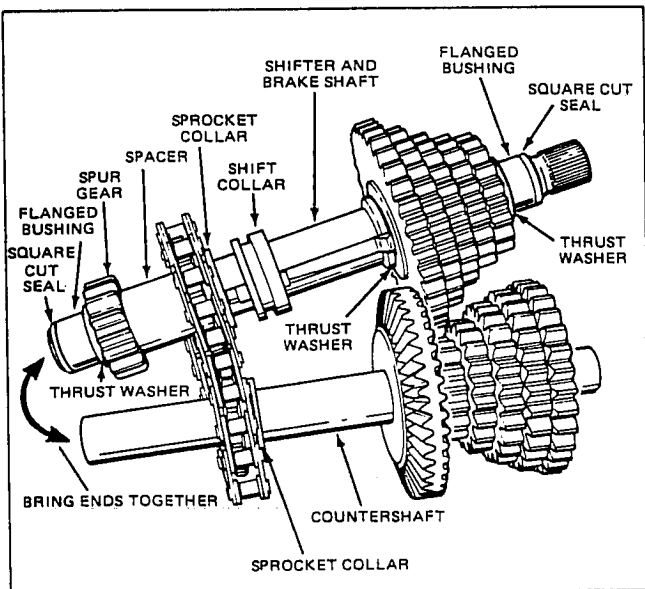

Figure 3-23
6. Angle the shifter and brakeshaft and countershaft chain sprocket ends toward each other. See Figure 3-23. Note the collar on the sprockets face the bevel gear. Remove chain.